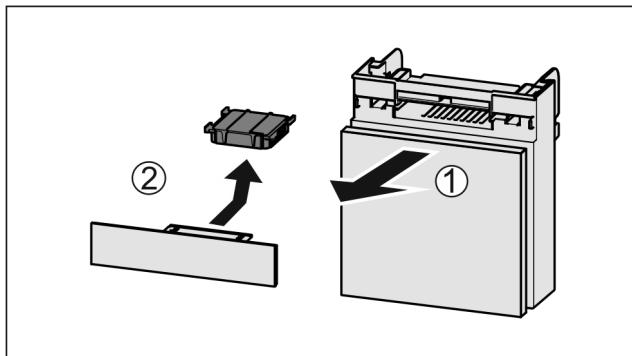

Fig. 48
- Pull out the compartment Fig. 48 (1).
- Remove the carbon filter Fig. 48 (2).